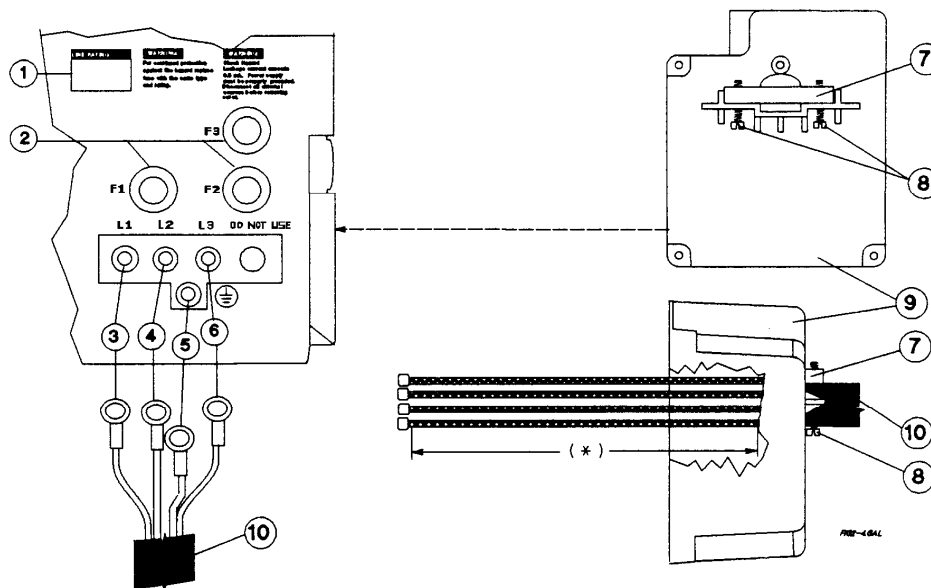

Figure 2-5. Connecting the Series 668xA Power Cord
See Figure 2-5 and proceed as follows:
1. Check the line fuses ( ②, Figure 2-5) as follows:
- a. Examine the **LINE RATING** label ① on the rear panel.
- b. Unscrew the line fuse caps ( ②) from the rear panel and verify that all fuses are as specified on the label. Replace the fuses.
2. Open the line clamp ⑦ and insert the line cord ⑩ through the opening.
3. Position the line cord so that the clamp is near the end of the outside insulating sheath. Tighten the screws ⑧ securing the clamp. Torque the screws using 2 to 4 inch-pounds (0.23 to 0.45 Newton meters).
- \* Phase 1 ③ to L1. Phase 2 ④ to L2. Phase 3 ⑥ to L3.
5. Secure the ground wire ⑤ to the chassis earth ground stud.